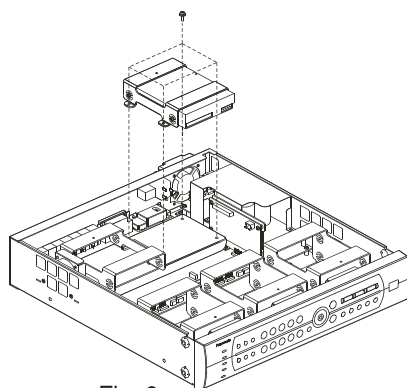

Fig. 6
6. Insert the hard disk fixing frame in the proper location inside the recorder and fix it with a screw (Fig. 6). (Be careful not to damage the fan connection terminal and hard disk cable.)